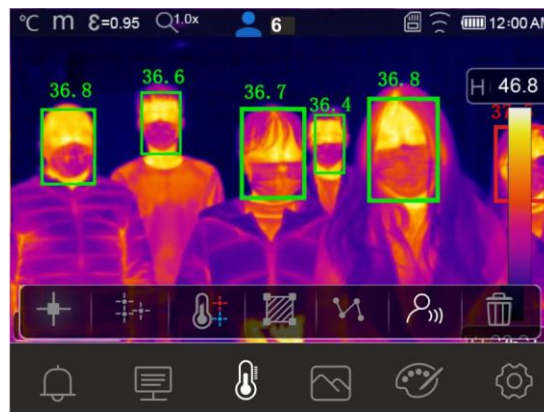

Fig. 36: Face mode on more people
7. The Face mode allows for the face temperature of several people (**up to 10 people**) to be evaluated at the same time (see Fig. 36). The counter “” found at the top of the display indicates the number of statistically valid detections.